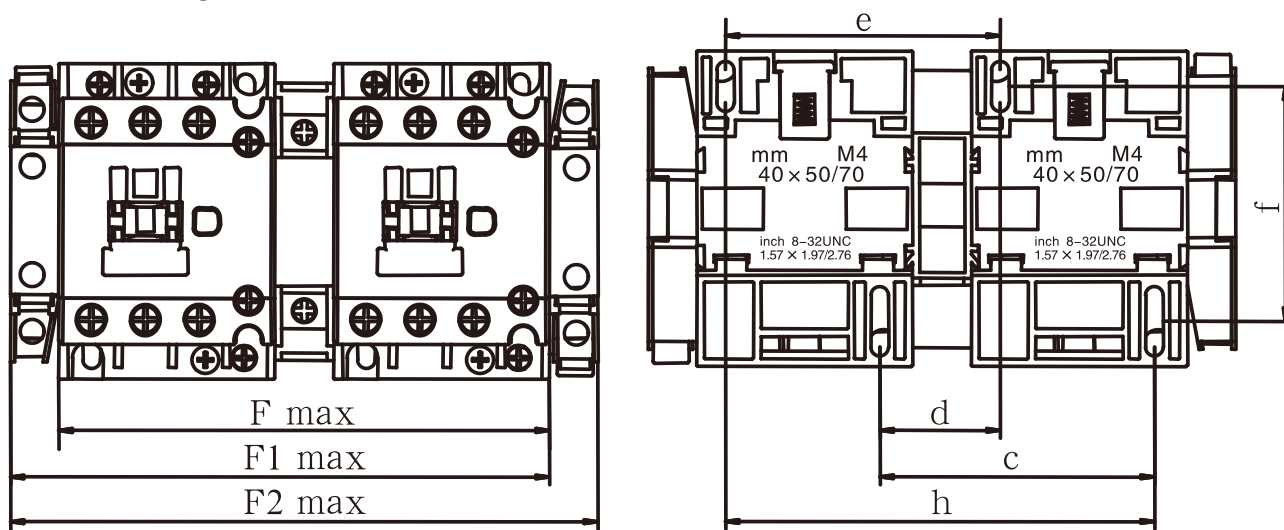

Figure 7 HDCK-09N~38N
- Refer to Figures 7 and 8 and Table 4 for the dimensions and mounting dimensions of the directional AC contactor.